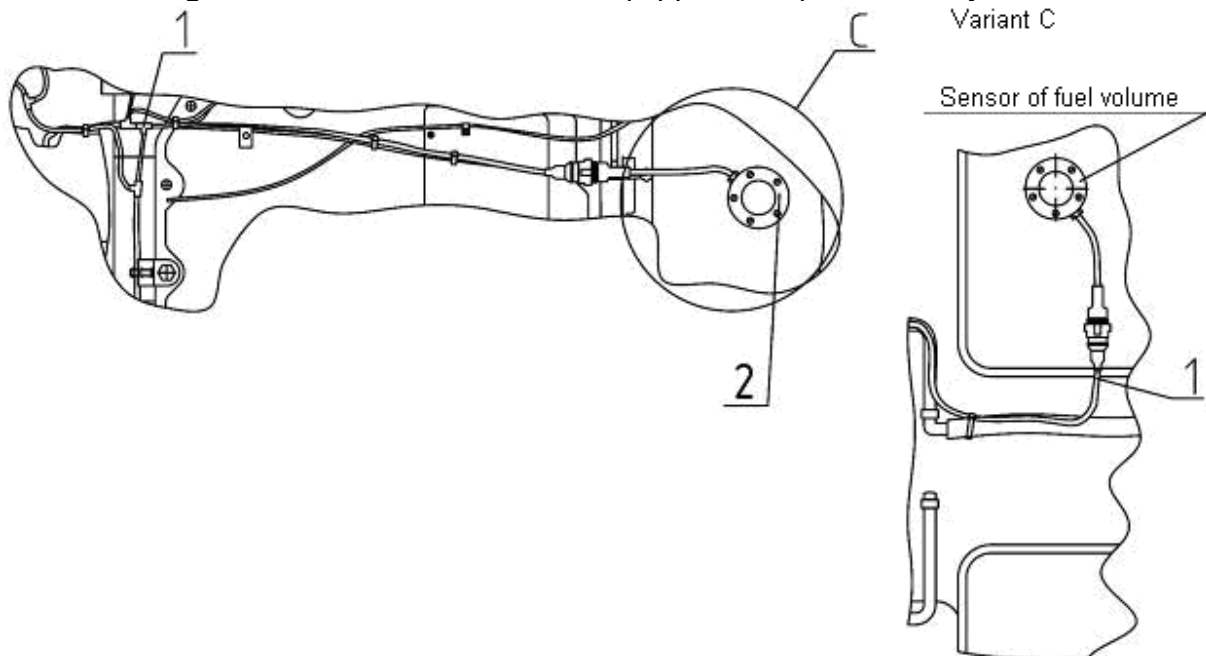

Figure 11.8 Specific feature of electrical equipment of tractors BELARUS-1221.4
- 6) sensor of fuel volume 2 (Figure 11.8) for tractors BELARUS-1221.4;